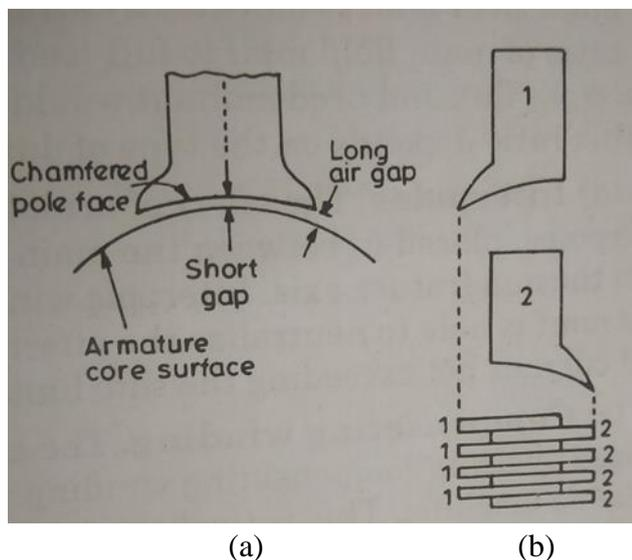

Fig.1.11 (a) Chamfered or ecentric pole, (b) Laminations 1 and 2 are stacked alternatively
- Using chamfered or eccentric pole shoes which results in short air-gap length at the pole centre and longer air-gap lengths under the pole tips, i.e. the profile of the pole shoe is not concentric with the armature core as shown in fig. 1.11 (a).
- Assembling alternatively the pole laminations as shown in fig. 1.11 (b). Due to this the iron area under the pole is halved and hence the reluctance of the pole tips is considerably increased.